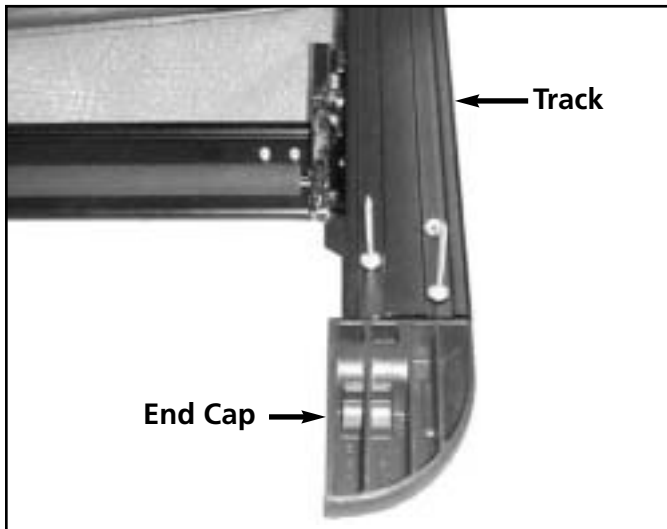

Figure S-48
14. Insert the end caps into the tracks, install the rivets and fasten with a rivet gun. See figure S-48.